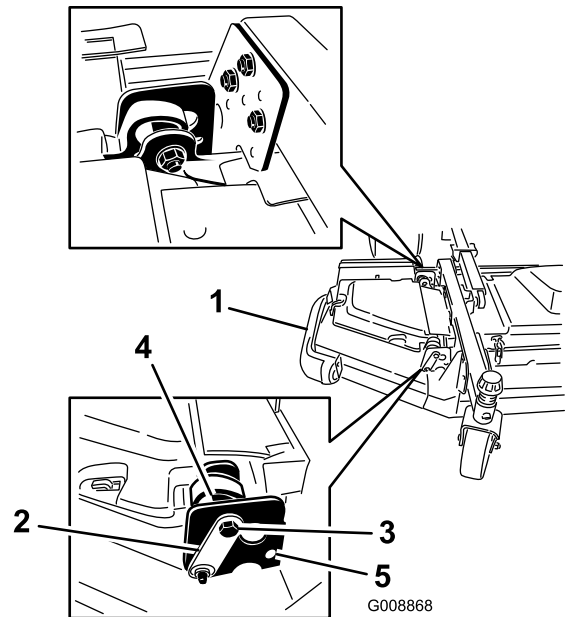

Figure 4
- Install the front and rear stop bolts through the upper-mounting holes and eccentrics (Figure 4).